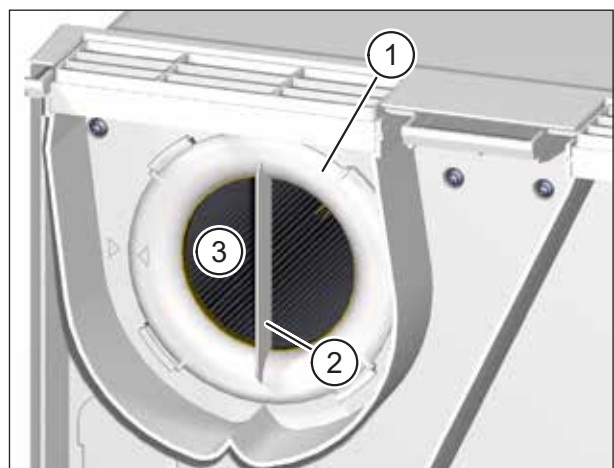

Fig. 6: Remove extract air filter, clean filter ring
- ▶ Turn the filter ring (item 1 in Fig. 6) using the hand grip (item 2 in Fig. 6) anti-clockwise until the filter ring is released from the retainers.
- ▶ Pull the filter ring together with the extract air filter (item 3 in Fig. 6) out of the ventilation unit.
- ▶ Check the position of the filter ring. The hand grip must be vertical and the arrow on the filter ring must line up with the arrow for the locking position (see Fig. 6 on page 12).